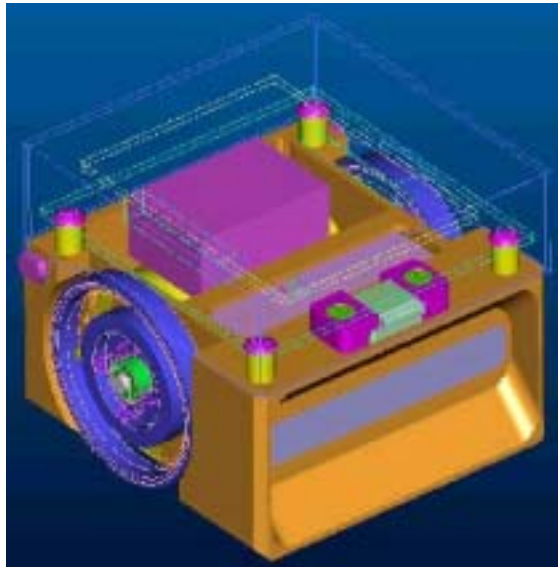

Figure 1.4 Modeling of YSR-A
- Figure 1.4 Modeling of A type robot